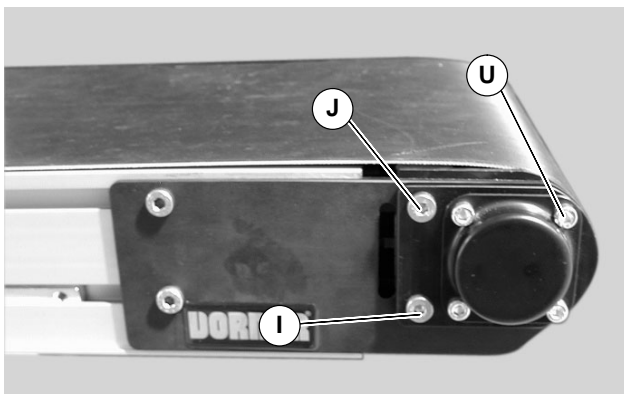

Figure 24
7. Loosen screws (I and U of Figure 24).
8. Remove screw (J of Figure 24). Remove existing spacer plates (K of Figure 25).